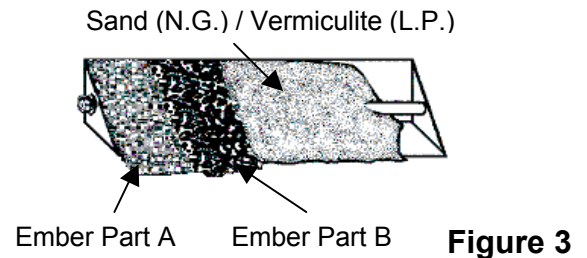

Figure 3
3. **Embers (Rockwool)** are placed over the sand to simulate glowing embers. For best results pinch off pieces of the rockwool the size of a dime and feather it out. Place as much as desired over the area the gas comes through. (See **Figure 3** on previous page.)